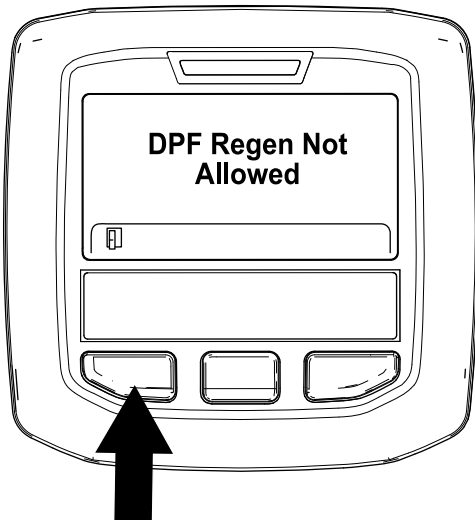

Figure 34
- If the regeneration process is not allowed by the engine computer, the “DPF Regen Not Allowed” message displays in the InfoCenter (Figure 34). Press the left button to exit to the home screen